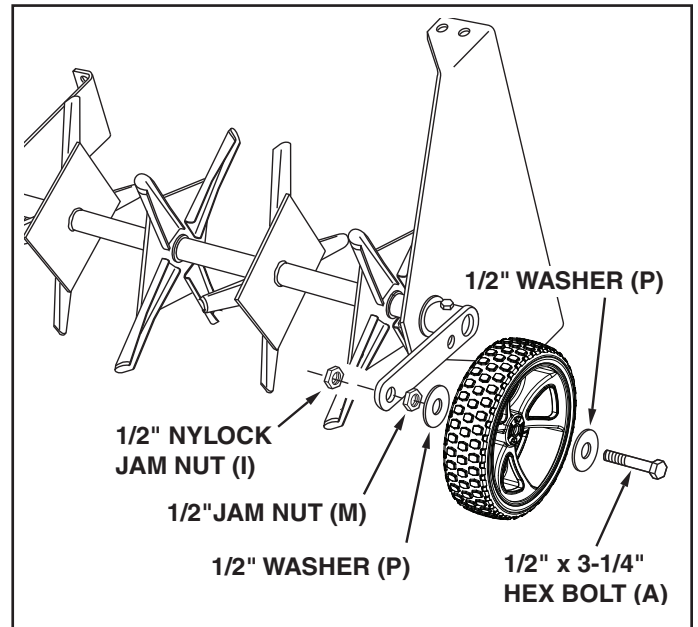

FIGURE 6
8. Assemble a wheel to a wheel bracket using a 1/2" x 3-1/4" hex bolt (A), two 1/2" washers (P), a 1/2" jam nut (M) and a 1/2" nylock jam nut (I). Adjust the nuts so that the wheel is held securely but will spin freely. Repeat on other side. See figure 6.